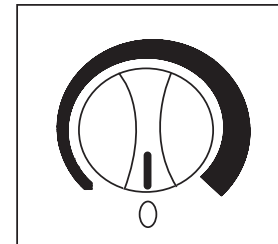

Fig.2
- To turn off the wine cooler, (no cooling) rotate the control knob to the "0" (off) position. **See Fig. 2.** Turn the control to the "OFF" (0) position to temporarily disconnect the cooling cycle. When the wine cooler is not to be used for long periods of time, disconnect from power and leave the door partially open.